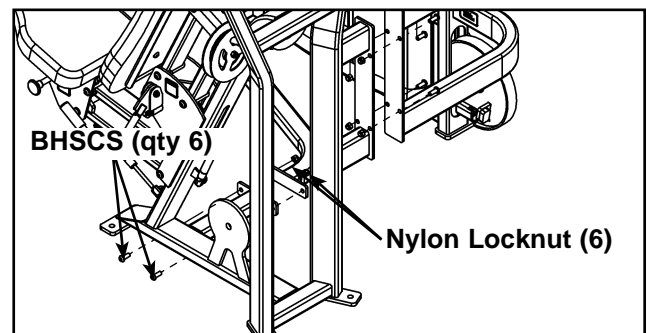

Figure 4
I. With an assistant, carefully remove the six BHSCS securing the two halves of the frame. See Figure 4.
K. With an assistant, carefully attach each half together using the six BHSCS removed in step 4I. See Figure 4.